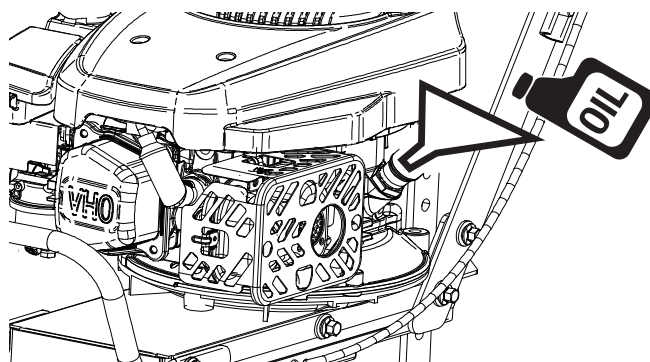

Figure 1-7
- Secure the oil cap and wipe off any excess oil. See Figure 1-7.